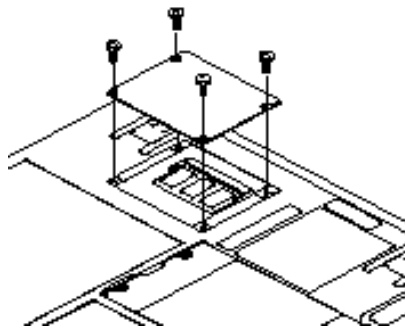

Figure 4-8 Opening the Memory Upgrade Compartment
4. Remove the screws in the four corners of the memory upgrade compartment. (See *Figure 4-8*.)
5. Remove the cover. (See *Figure 4-8*.)